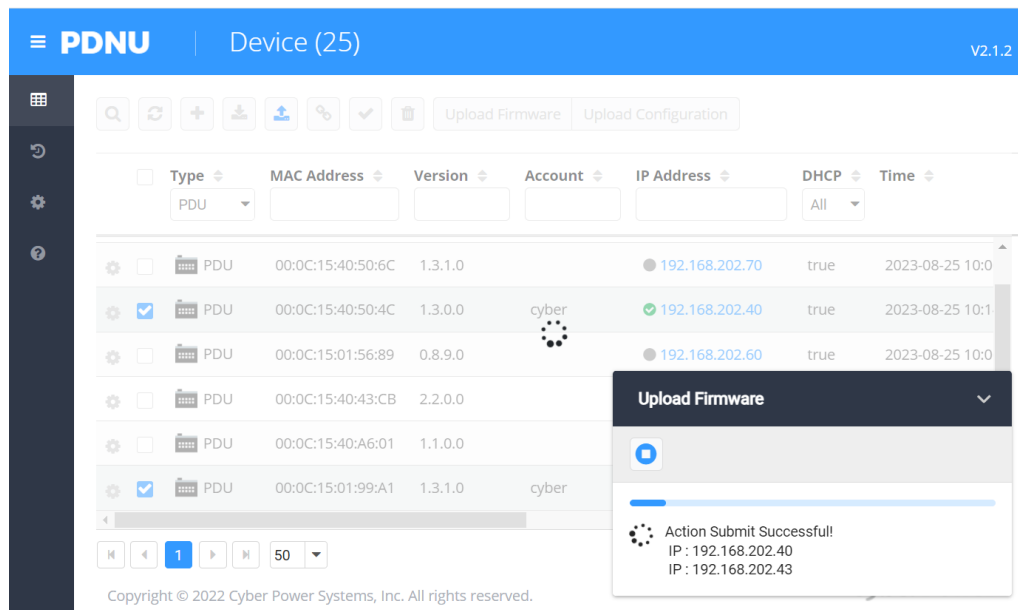

Figure 5.
- The upgrade progress bar will show in the lower right **Upload Firmware** window (Shown in Figure 5).